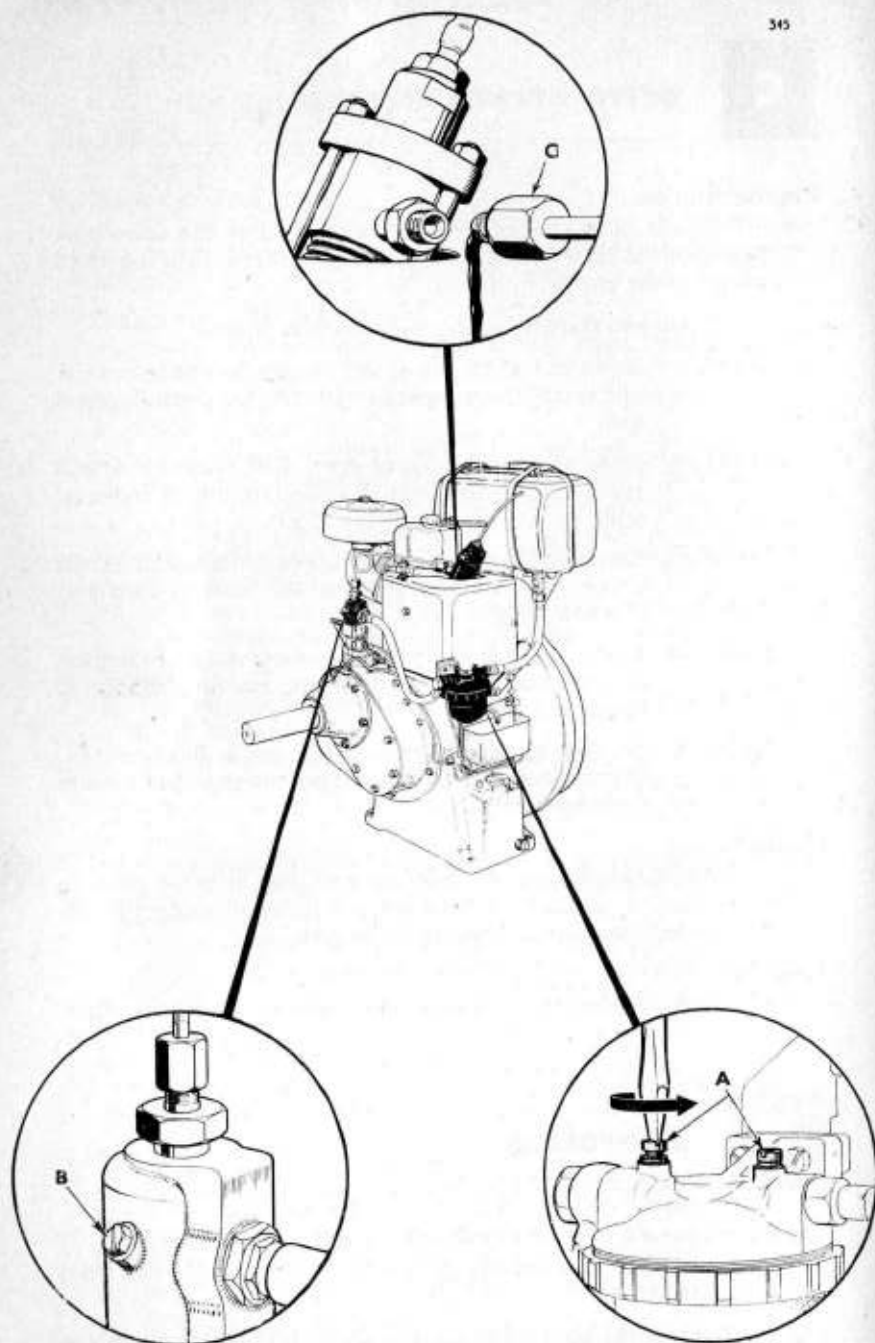

Fig. 1.
**d****operation****6. To prepare a new or overhauled engine for starting (Fig. 1)**